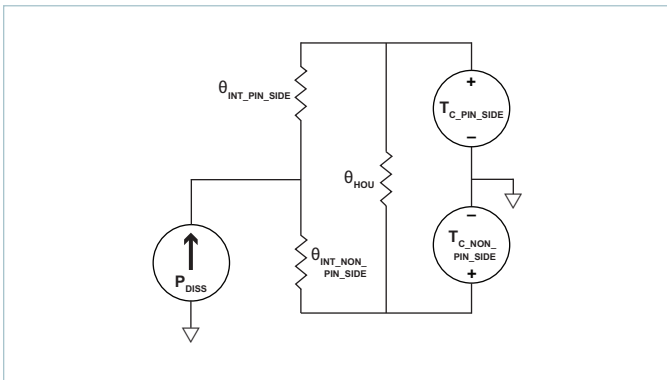
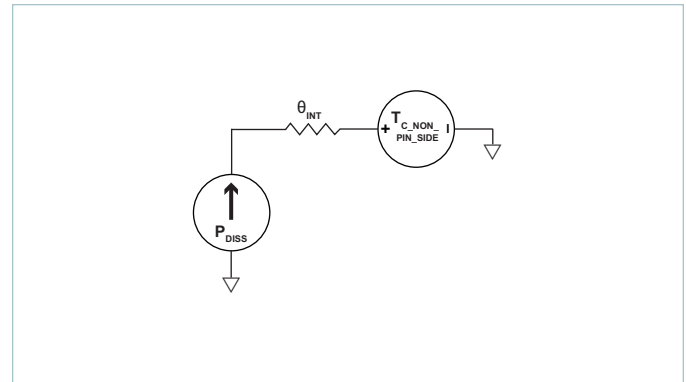

Figure 18 – Double sided cooling VIA thermal model
Figure 19 – Single-sided cooling VIA thermal model
The VIA package provides effective conduction cooling from either of the two module surfaces. Heat may be removed from the pin-side surface, the non-pin-side surface or both. The extent to which these two surfaces are cooled is a key component for determining the maximum power that can be processed by a DCM in a VIA package, as can be seen from specified thermal operating area on Page 4. Since the VIA package has a maximum internal temperature rating, it is necessary to estimate this internal temperature based on a system-level thermal solution. To this purpose, it is helpful to simplify the thermal solution into a roughly equivalent circuit where power dissipation is modeled as a current source, isothermal surface temperatures are represented as voltage sources and the thermal resistances are represented as resistors. Figure 18 shows the “thermal circuit” for the VIA package.
- Single side cooling: the model of Figure 18 can be simplified by calculating the parallel resistor network and using one simple thermal resistance number and the internal power dissipation curves; an example for non-pin side cooling only is shown in Figure 19.